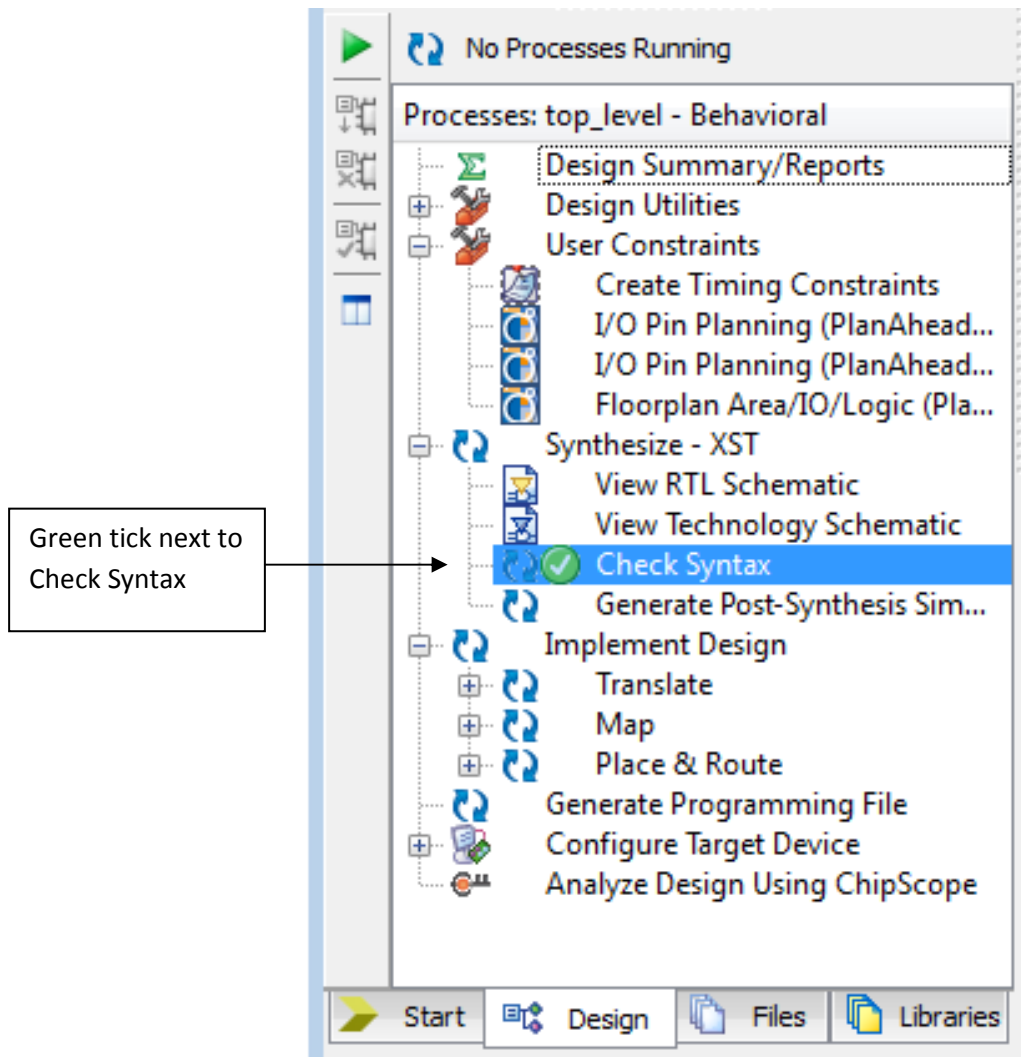
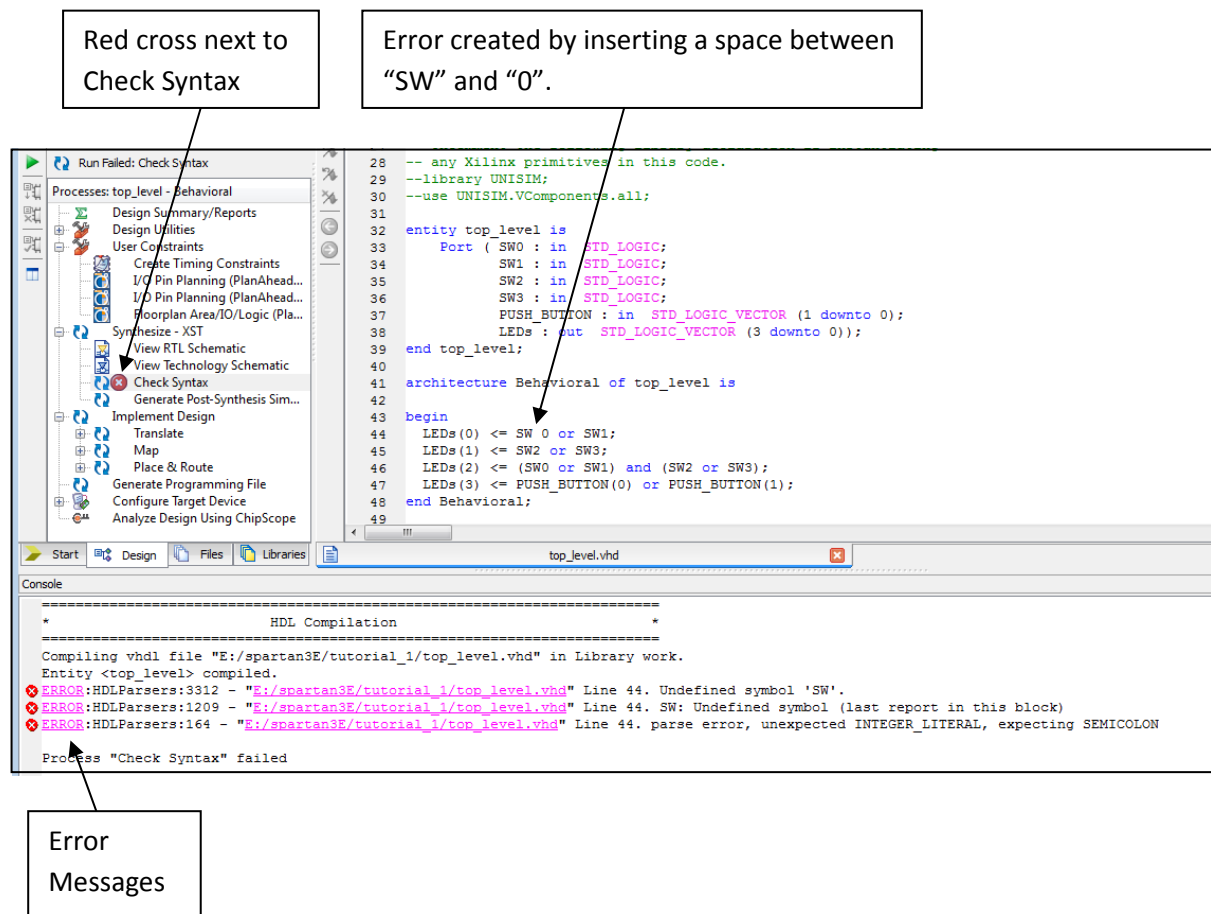

Figure 3.14: A green tick next to Check Syntax shows that no errors were found.
Figure 3.15: Example where an error was purposely introduced. A red cross next to Check Syntax indicates that an error was found.
4. Double-click on **Check Syntax**. After some time, a green tick should appear beside **Check Syntax**, as shown in Figure 3.14. If instead, a red cross appears, this means a syntax error has been found. Any errors should be fixed before proceeding. For example, in Figure 3.15, a syntax error has been purposely made, in that a space has been left between “SW” and “0” in “SW0”. If a syntax error has been found, an error message should appear in the **Console Window**, which should assist with diagnosing and fixing the problem (see Figure 3.15).